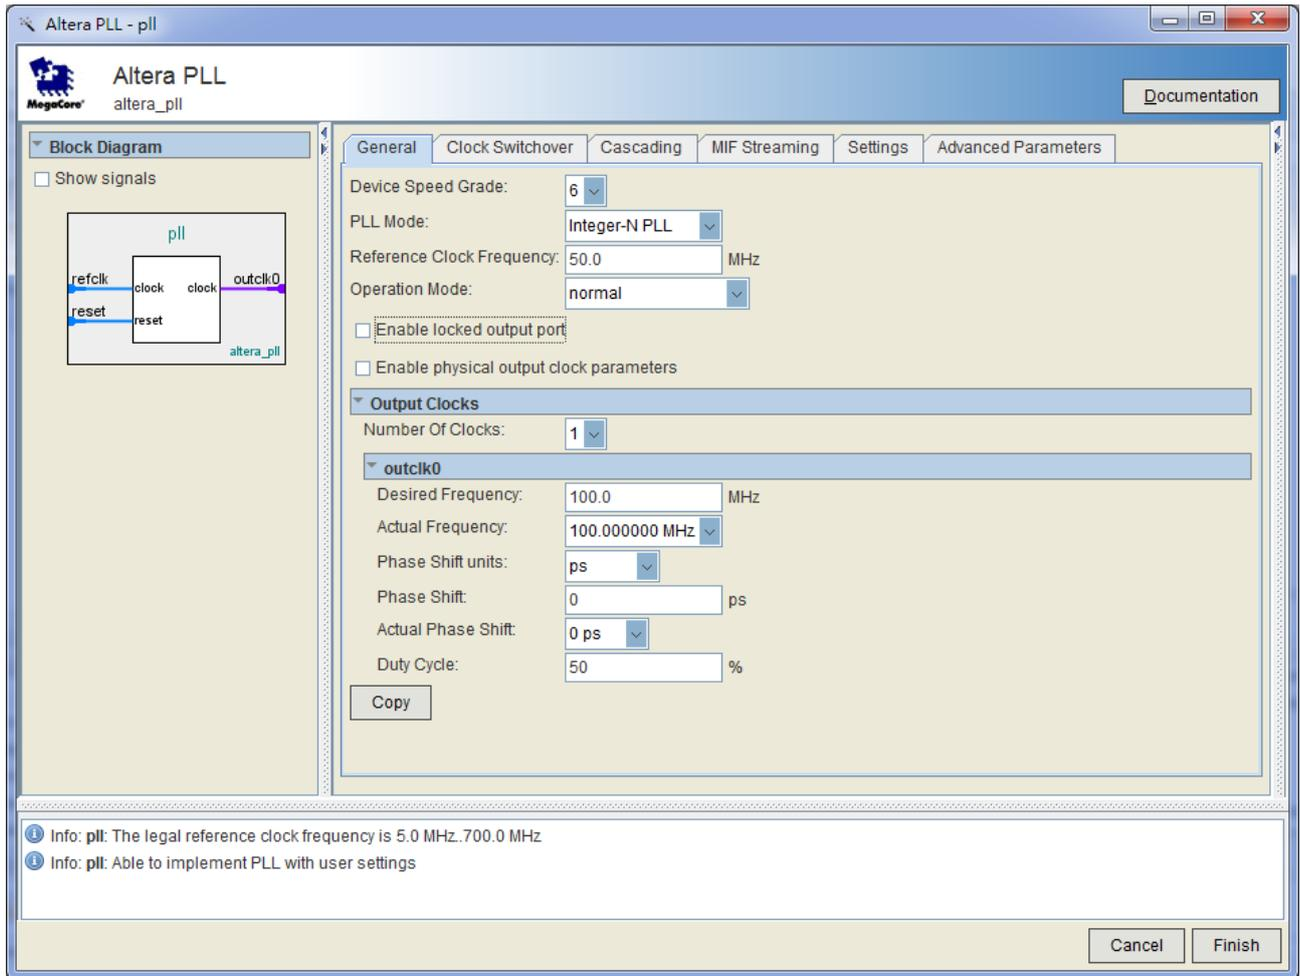

Figure 3-11 Selections of Altera PLL windows
6. Turn off the Enable locked output port option on IP windows. As you turn it off, pin disappear from the PLL block’s graphical preview. See Figure 3-11 for an example.